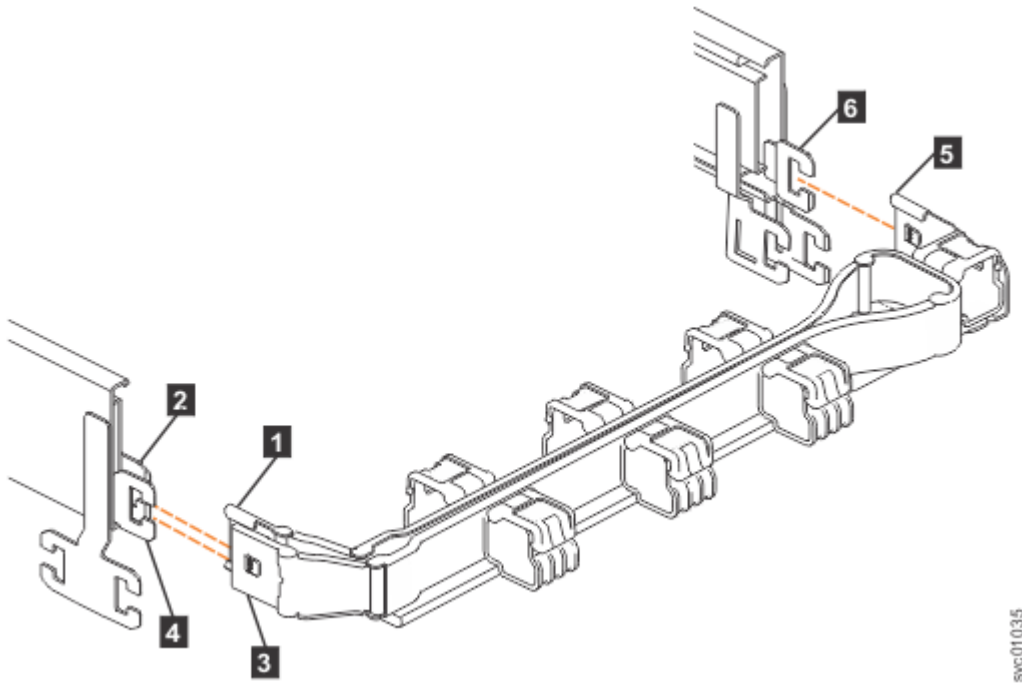
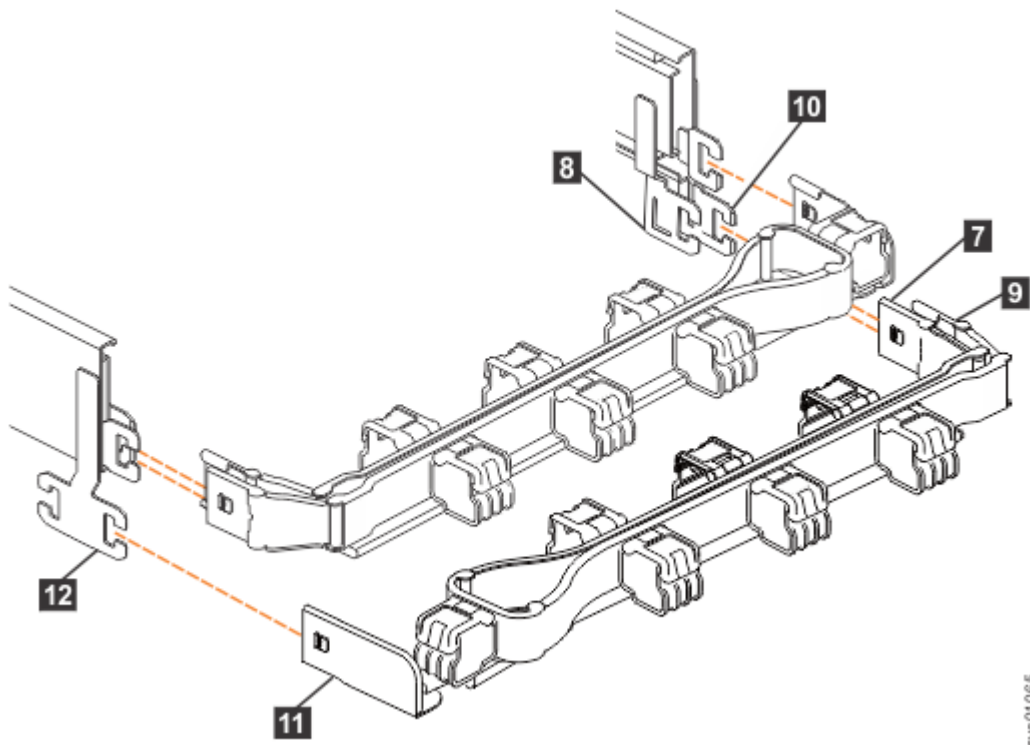

Figure 136. Connectors for the upper cable management arm
Figure 137. Components of the lower CMA assembly
The connectors of the CMA are installed on the rail hooks at the end of the support rails. Figure 136 on page 177 shows the connectors on the upper CMA assembly.
1. Press the latch on the connector base on the upper CMA assembly (**5** in Figure 136 on page 177).
2. Pull the connector to remove it from the connector base on the right support rail (**6** in Figure 136 on page 177).
3. Press the latch on the outer connector of the upper CMA assembly (**3** in Figure 136 on page 177).
4. Remove the outer connector from the inner member of the left support rail (**4** in Figure 136 on page 177).
5. Remove the inner connector of the upper CMA assembly (**1**) from the inner member of the left support rail (**2**), as shown in Figure 136 on page 177.
Note: The procedure for removing the lower CMA assembly is the same as the procedure to remove the upper CMA assembly. However, the connector locations are reversed. For example, the connector base of the upper CMA (**5** in Figure 136 on page 177) connects to the right rail. The connector base of the lower CMA (**11** in Figure 137 on page 178) attaches to the left rail.
6. Remove the connector base on the lower CMA assembly (11) from the connector on the left support rail (12), as Figure 137 on page 178.
7. Remove the inner connector of the lower CMA assembly (9) from the outer member of the right support rail (10), as shown in Figure 137 on page 178.
8. Remove the outer connector of the lower CMA assembly (7) from the inner member of the right support rail (8), as shown in Figure 137 on page 178.